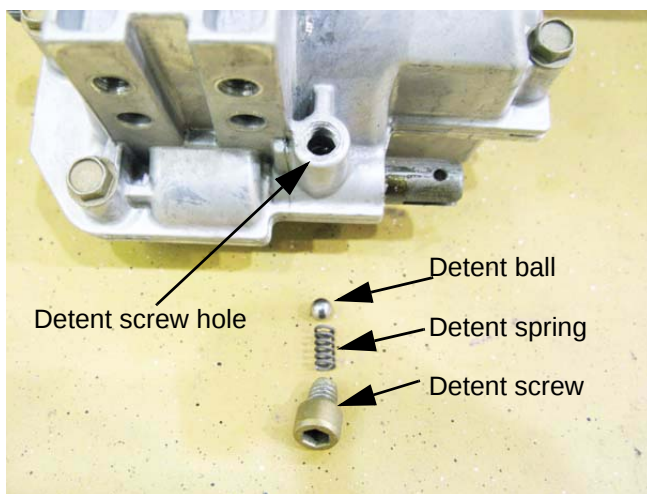

Figure 6.87
5. Use a magnet, or turn the transaxle upside-down to remove the detent ball and spring. See Figure 6.87.